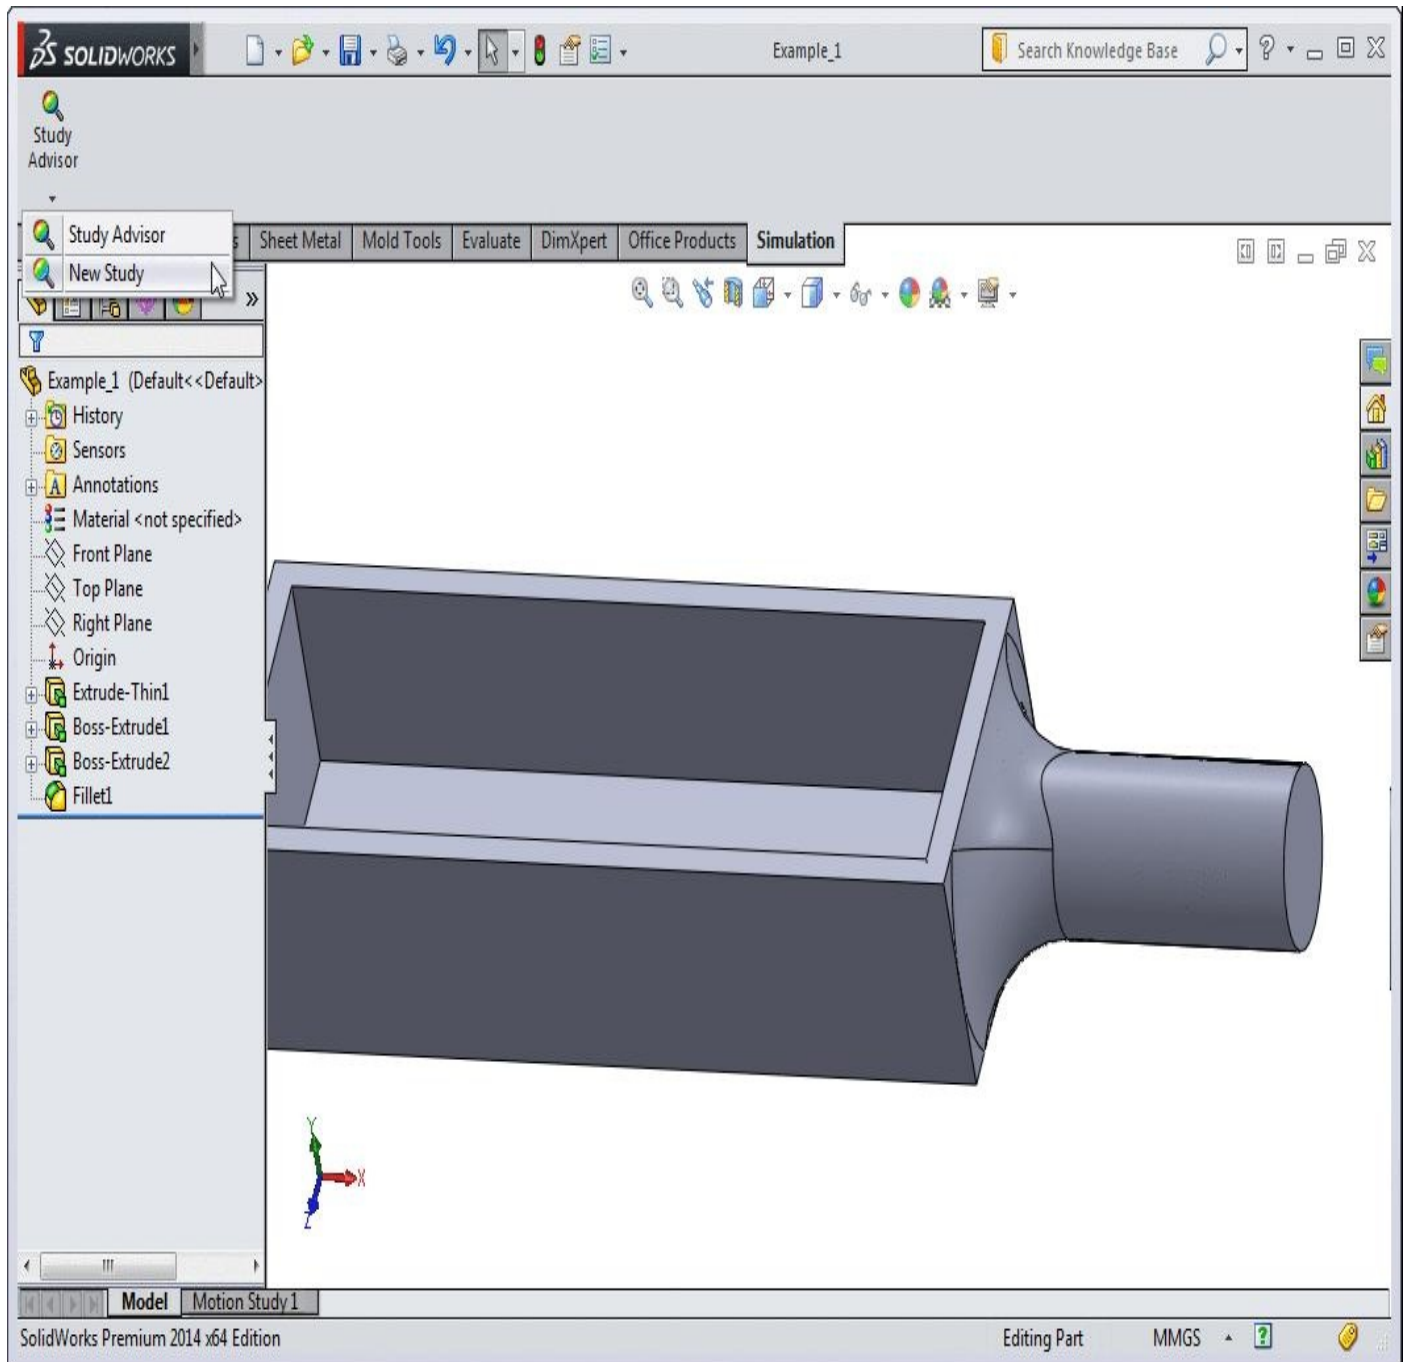

Figure-1. Starting Analysis
- Click on the Down arrow below the **Study Advisor** button and select the **New Study** tool from the drop-down. Refer to Figure-1. List of analysis studies that can be performed, will be displayed.